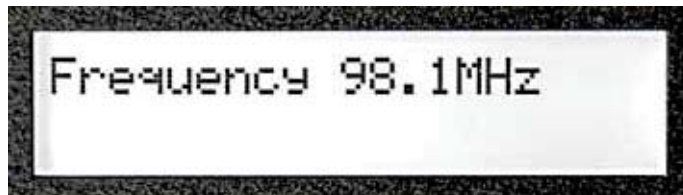

Figure 3-9. Press the FUNCTION Key to read Frequency
1. After pressing the FUNCTION key on the front of the FM500ES, the operating frequency will appear on the LCD display (see Figure 3-9).